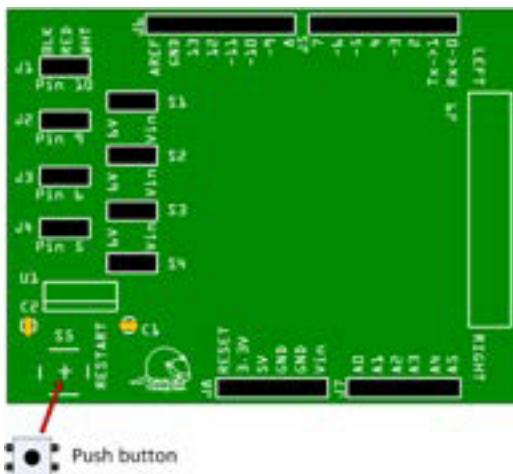

Figure HT3-11. Location to solder push button
9. Insert and solder the push button, S5, as shown in Figure HT3-11.